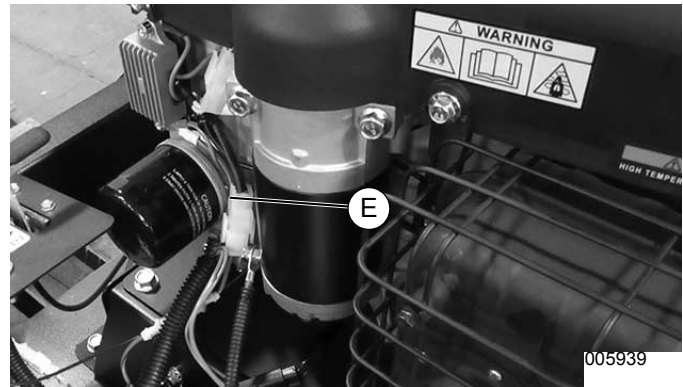

Figure 4-3. Oil Filter
3. See Figure 4-3. Remove oil filter (E) with an oil filter wrench.